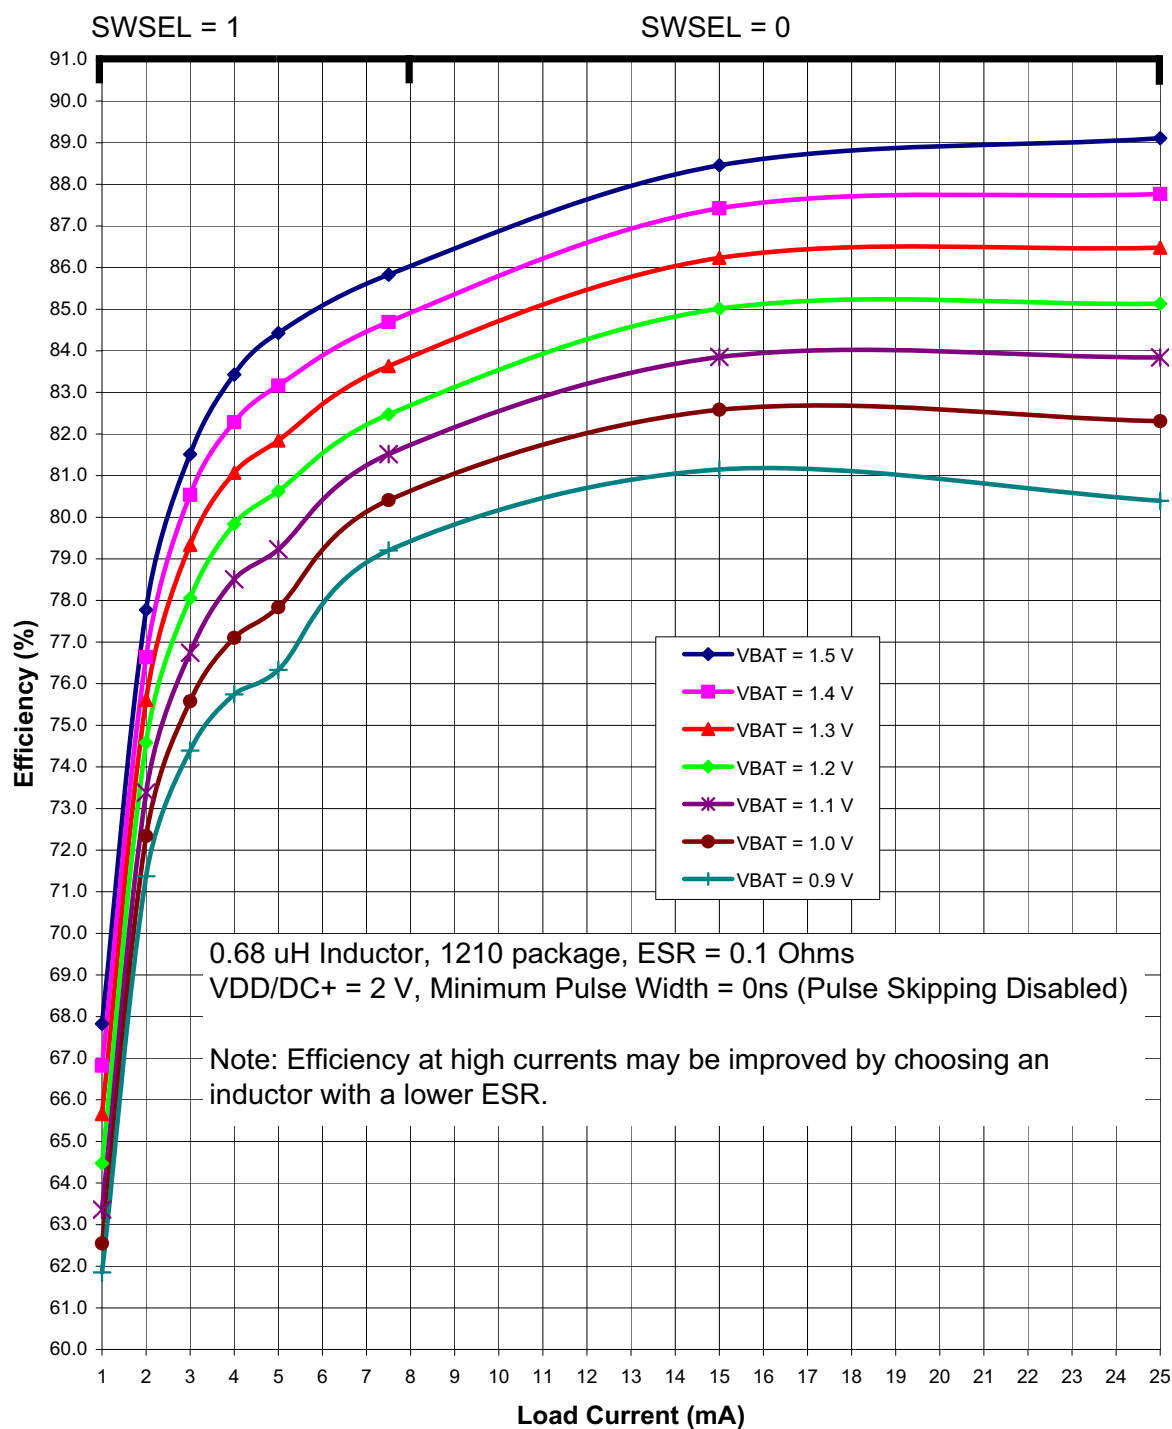
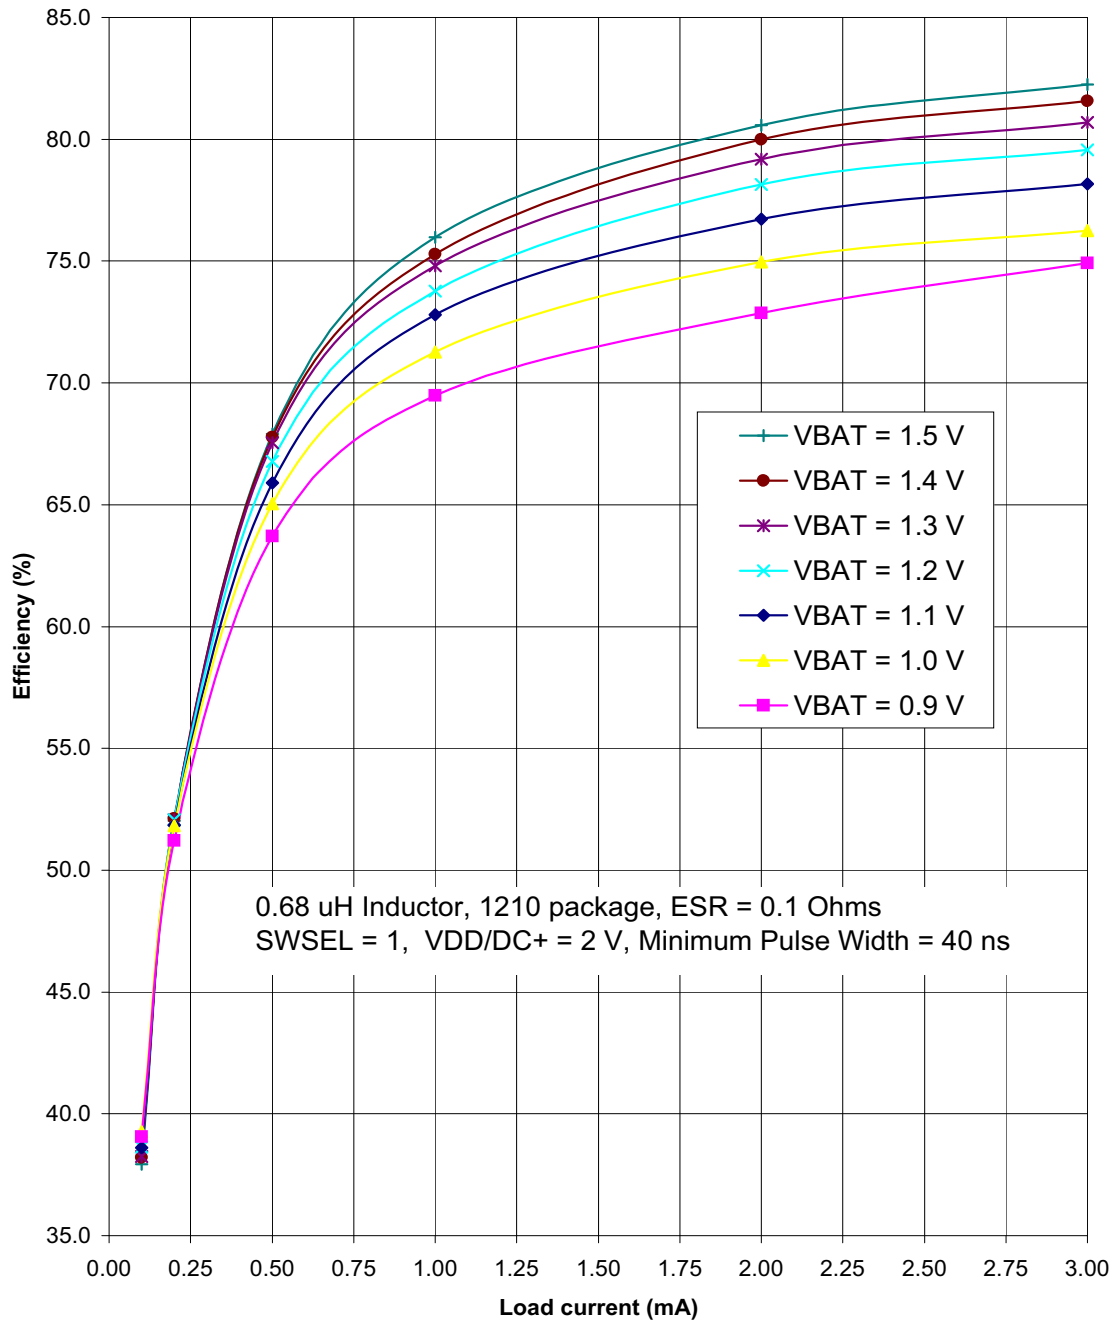

Figure 4.3. Typical DC-DC Converter Efficiency (High Current, VDD/DC+ = 2 V)
Figure 4.5. Typical DC-DC Converter Efficiency (Low Current, VDD/DC+ = 2 V)
Notes: <ol style="list-style-type: none"> 1. Based on device characterization data; Not production tested. 2. SYSCLK must be at least 32 kHz to enable debugging. 3. Digital Supply Current depends upon the particular code being executed. The values in this table are obtained with the CPU executing an "sjmp \$" loop, which is the compiled form of a while(1) loop in C. One iteration requires 3 CPU clock cycles, and the Flash memory is read on each cycle. The supply current will vary slightly based on the physical location of the sjmp instruction and the number of Flash address lines that toggle as a result. In the worst case, current can increase by up to 30% if the sjmp loop straddles a 64-byte Flash address boundary (e.g., 0x007F to 0x0080). Real-world code with larger loops and longer linear sequences will have few transitions across the 64-byte address boundaries. 4. Includes oscillator and regulator supply current. 5. IDD can be estimated for frequencies ≤ 14 MHz by simply multiplying the frequency of interest by the frequency sensitivity number for that range, then adding an offset of 90 μA. When using these numbers to estimate I_{DD} for >14 MHz, the estimate should be the current at 25 MHz minus the difference in current indicated by the frequency sensitivity number. For example: $V_{DD} = 3.0$ V; $F = 20$ MHz, $I_{DD} = 4$ mA – $(25 \text{ MHz} - 20 \text{ MHz}) \times 0.102 \text{ mA/MHz} = 3.5$ mA assuming the same oscillator setting. 6. The supply current specifications in Table 4.2 are for two cell mode. The VBAT current in one-cell mode can be estimated using the following equation: $\text{VBAT Current (one-cell mode)} = \frac{\text{Supply Voltage} \times \text{Supply Current (two-cell mode)}}{\text{DC-DC Converter Efficiency} \times \text{VBAT Voltage}}$ <p>The VBAT Voltage is the voltage at the VBAT pin, typically 0.9 to 1.8 V. The Supply Current (two-cell mode) is the data sheet specification for supply current. The Supply Voltage is the voltage at the VDD/DC+ pin, typically 1.8 to 3.3 V (default = 1.9 V). The DC-DC Converter Efficiency can be estimated using Figure 4.3–Figure 4.5.</p> 7. Idle IDD can be estimated by taking the current at 25 MHz minus the difference in current indicated by the frequency sensitivity number. For example: $V_{DD} = 3.0$ V; $F = 5$ MHz, Idle $I_{DD} = 2.1$ mA – $(25 \text{ MHz} - 5 \text{ MHz}) \times 0.079 \text{ mA/MHz} = 0.52$ mA. 8. Internal LFO only available on 'F912 and 'F902 devices. 9. Ability to disable VBAT supply monitor only available on 'F912 and 'F902 devices.